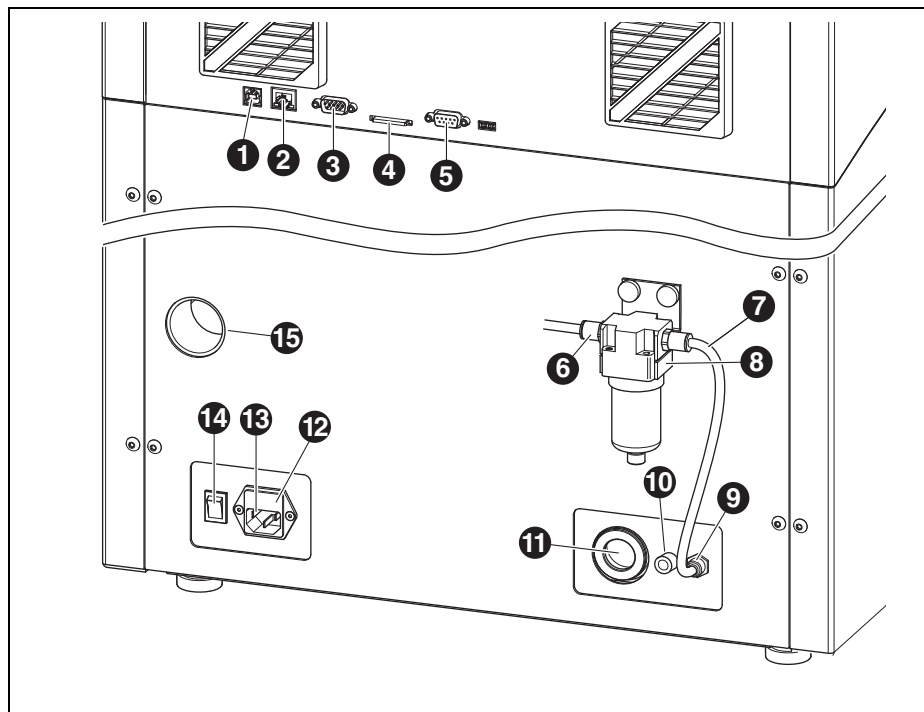

Fig. 3 Machine overview, rear
- ▷ Pull out the fuse compartment ([11] in Fig. 3 on page 53) below the mains plug.